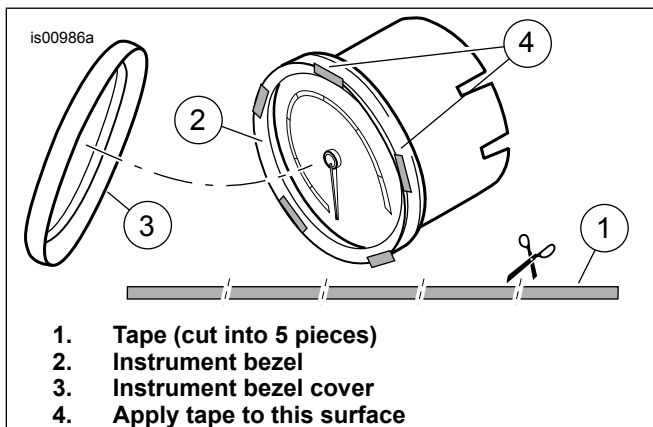

Figure 1. Chrome Instrument Bezel Installation
2. See Figure 1. Cut the tape (1) into five equal pieces.